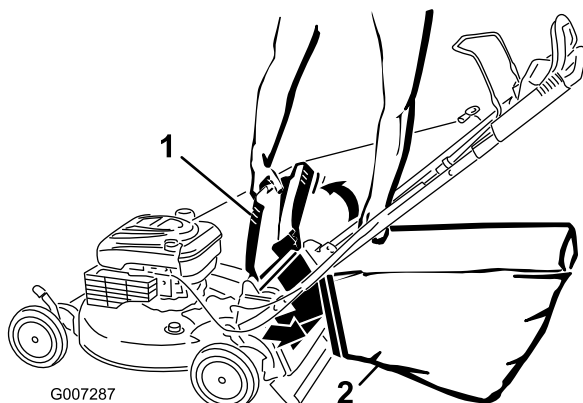

Figure 22
4. Hang the upper front edge of the bag on the notches (Figure 22).